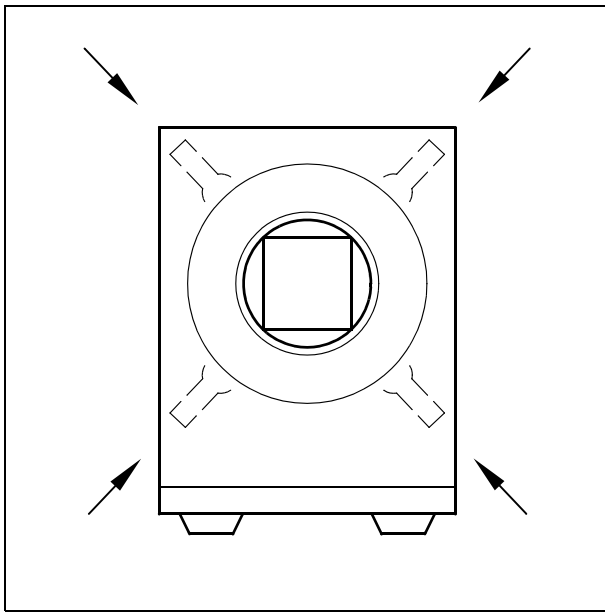
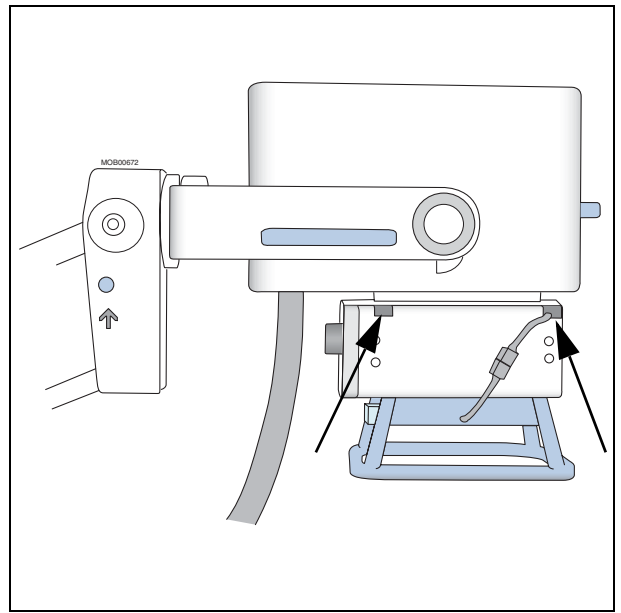

Fig. 18
Fig. 19
- If the deviation is larger, loosen the four Allen screws a little (arrow/Fig. 18/Fig. 19) and shift the collimator accordingly.
After adjusting the collimator, tighten the screws again (arrow/Fig. 18/Fig. 19).